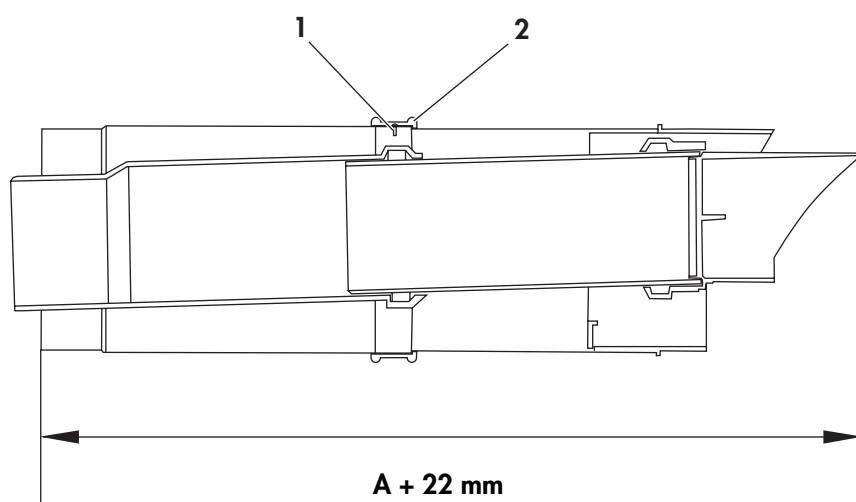

Fig. 3.17
- Adjust the air duct and flue duct to the lengths shown in (fig. 3.17).
- Secure the air duct sections together by drilling a 3 mm diameter hole through the location hole in the end of the outer air duct (1). (Ensure that the drill does not pierce the inner flue duct). Secure the air ducts together using the screw (1) provided. Place the adhesive tape (2) across the gap in the telescopic extensions. (fig. 3.17)